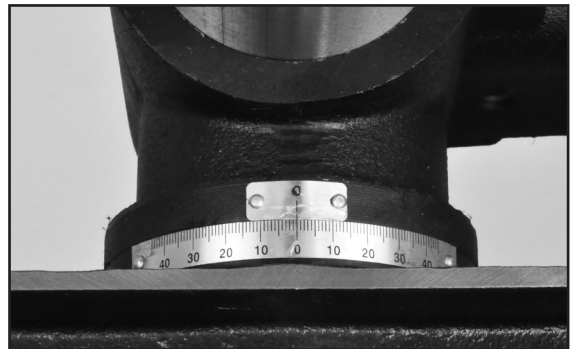

Figure 18
3. Tilt the table to the desired angle using the tilt scale and pointer on the bracket to indicate the angle. (Fig. 18).